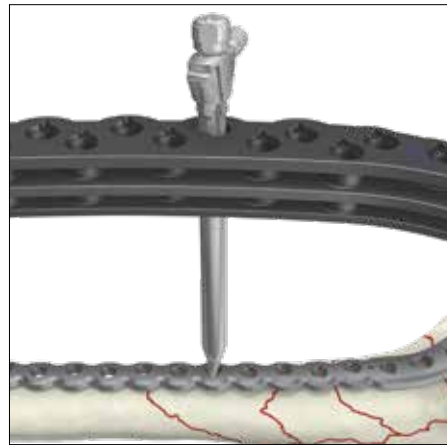

Fig. 17
Mark the chosen shaft hole using the tissue protection sleeve and make a small incision. Insert the tissue protection sleeve (ref 703570) together with the sharp tip trocar (ref 703576) until the tip is in contact with the plate (fig. 17).